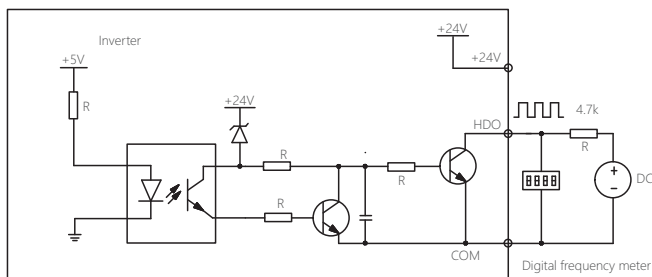

Figure 5-10 Wiring method 2 of output terminal HDO
b) HDO is used as digital pulse frequency output or external power supply. See Figure 5-10 for wiring method.